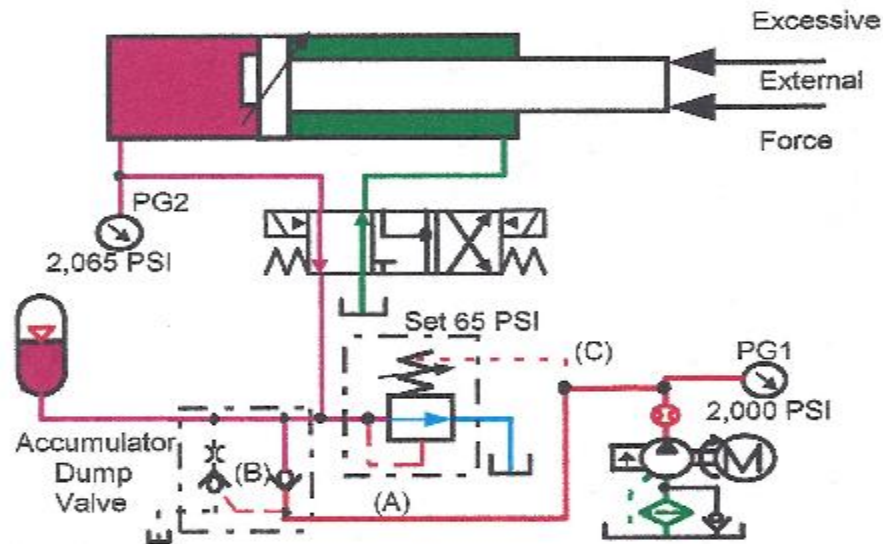

Figure 20-26. Pressure-compensated pump with safety relief valve —
With the circuit at rest and the pump running, system pressure is the pump compensator setting. Pump pressure at the internal pilot is trying to open sequence valve (A), but at the same time holding it closed through the external drain port. With a sequence-valve spring setting of 65 psi, it will not open to tank until pressure after check valve (B) goes at least 65 psi higher than pump compensator setting, as in Figure 20-26.